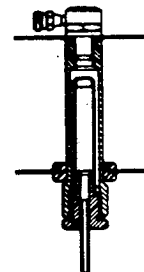

FIG. 7.
With this in mind, it has been decided to clarify the diagrammatic instructions given in Fig. 7, page 4, of the original issue.
6. Fit the two spray units as shown in Fig.7:-